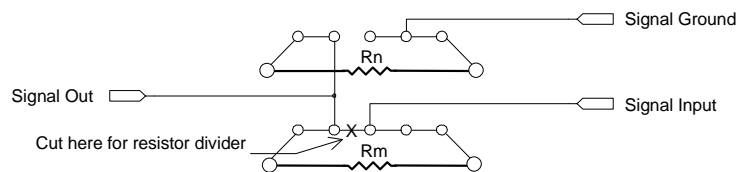
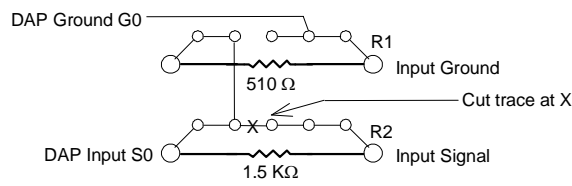

Figure 7. Resistor Placement
Figure 8. Resistor Circuit for S0
To configure the Analog Input Expansion Board for a current input, place a resistor in the location on the board corresponding to the input pin being reconfigured. Figure 7 and Table 5 show resistor placement. The appropriate size for this resistor can be calculated using Ohm's Law, given the maximum input current and the input voltage range of the Data Acquisition Processor.
Once the trace is cut, the resistors for the voltage divider are soldered into place. The resistor on the ground side of the divider is placed in an odd-numbered resistor location and the resistor on the input signal side of the divider is placed in an even-numbered resistor location. Figure 7 and Table 5 illustrate resistor placement for each input.
* The current input resistor is placed in the Rn location shown in Figure 7.
** The first resistor is on the ground side of the voltage divider (Rn), the second is on the input signal side (Rm), as shown in Figure 7. For example, R1 is Rn and R2 is Rm. Figure 8 shows the resistor placement for this example.
Table 5 and Figure 7 can be used to locate the appropriate resistors when using either the current input or voltage division configuration. Figure 7 shows schematically how the inputs and grounds on the termination board are connected.
Resistance values of 1500 and 500 Ohms may be used. The trace beneath the X above R2 is cut. Then the 500 Ohm resistor is placed in the R1 position and the 1500 ohm resistor is placed in the R2 position. Since 500 Ohm resistors are not commonly available, a 510 Ohm resistor would typically be used instead, resulting in a small error in the division ratio. This error is linear and can be corrected by multiplying by a constant in DAPL. Figure 8 illustrates the circuit for this example.